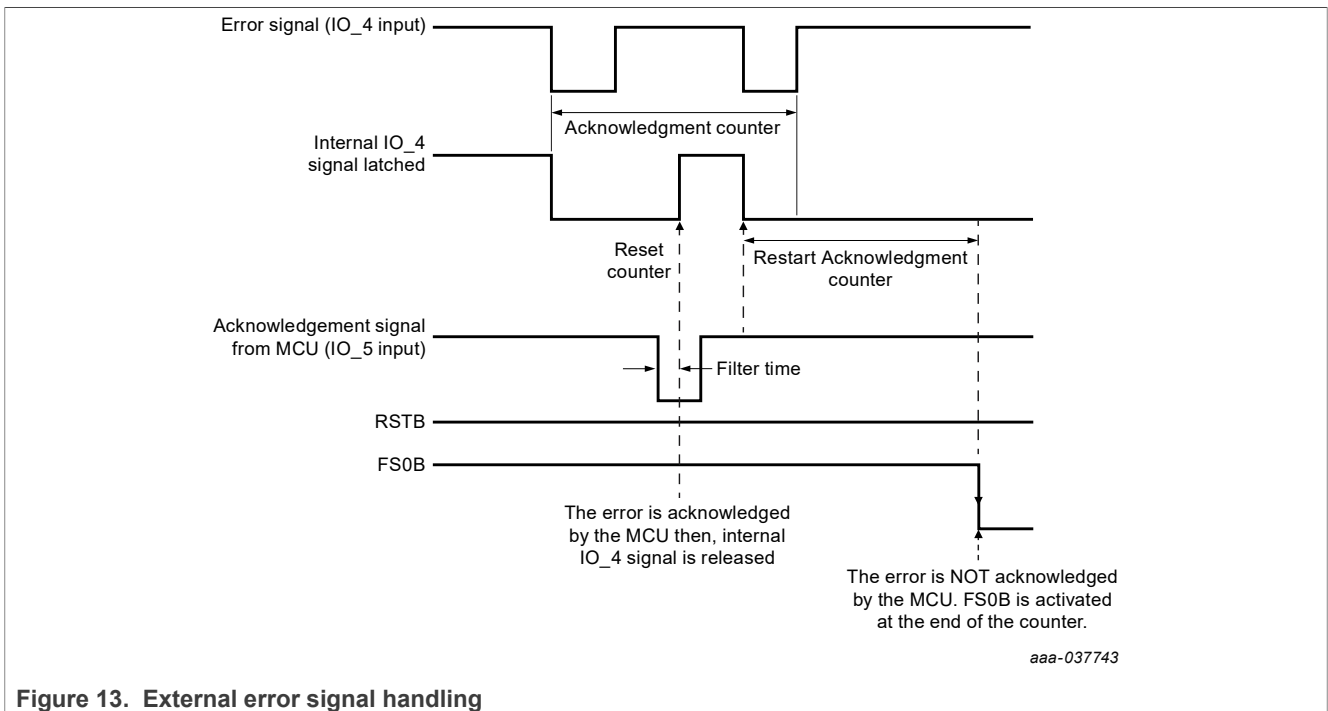

Figure 13. External error signal handling
**Safety purpose:** Digital input (logic level) to perform an IC error monitoring (both IO\_4 AND IO\_5 are used if configured as safety inputs, see Figure 13).